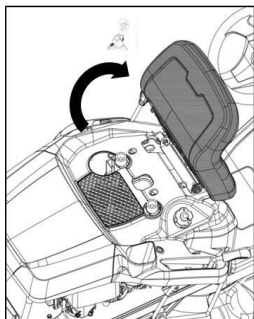

Figure 26
1. Fold the seat (Figure 26) forwards.